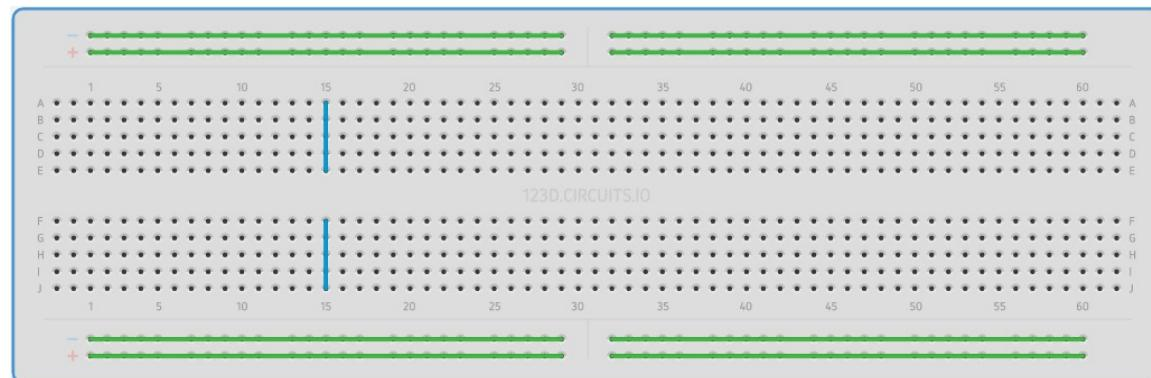

Figure 1.4: Breadboard
1.2.3.1. Connect the 5V pin of the Vaman-ESP32 to an extreme pin of the Breadboard shown in Figure 1.4. Let this pin be V_{cc} .